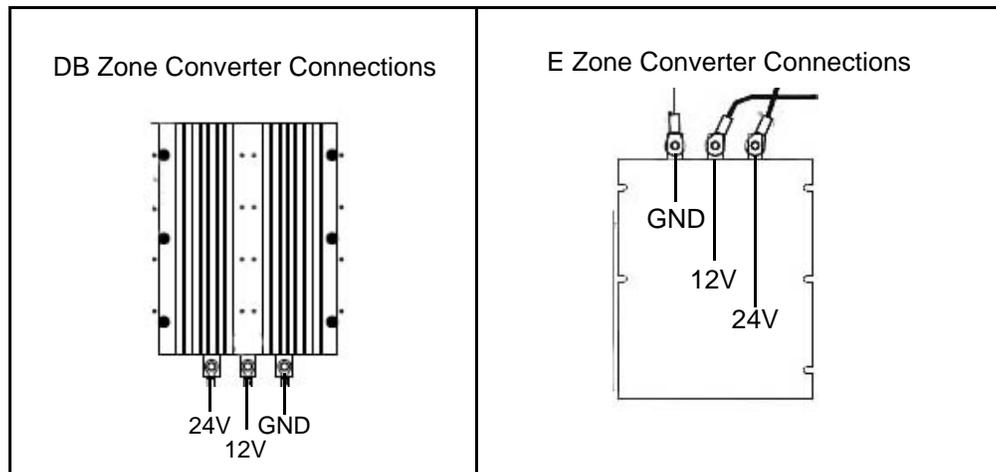

Figure 1-8 Orion VII Sure Power Converter Connections
3. Install converter connections to the referenced marked positions and torque to 110 in.lbs (12.4 NM). See **Figure 1-8**.
5. Turn the battery isolator switches to the ON position. See **Figure 1-8**.